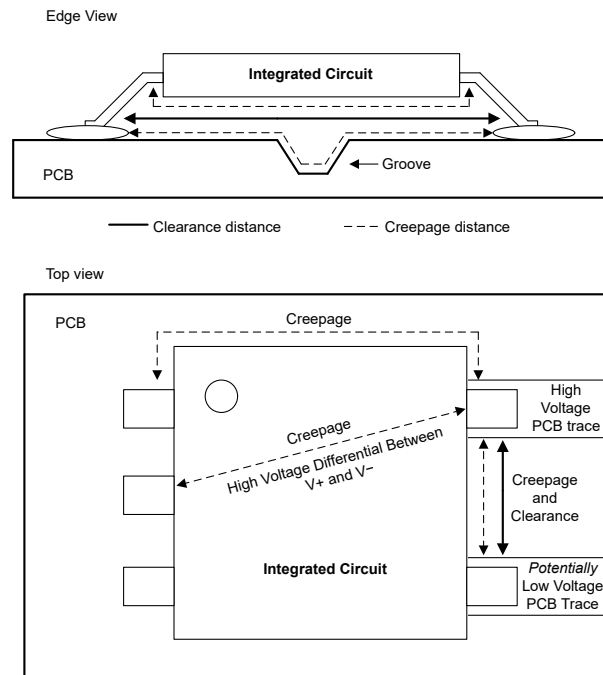

Figure 7-11. Creepage and Clearance in Integrated Circuits
When designing and building electrical systems with high voltage, two important concepts to consider are creepage and clearance. Creepage distance refers to the shortest path that an electric current can take along the surface of an insulating material, such as a printed circuit board (PCB) or a plastic enclosure. Clearance distance refers to the shortest distance between two conductive parts, such as wires, terminals, or components, through the air. Figure 7-11 illustrates creepage and clearance for a typical integrated circuit (IC).